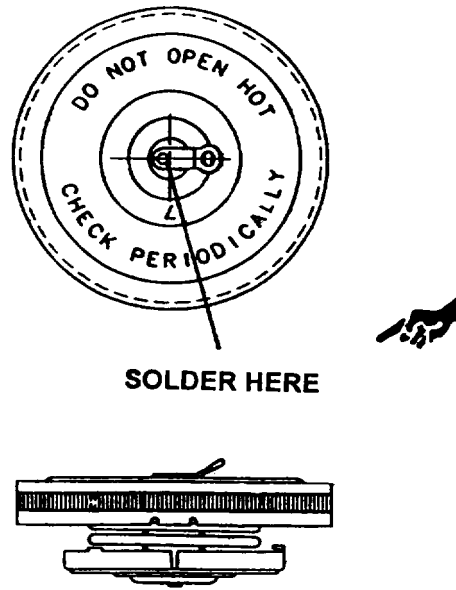
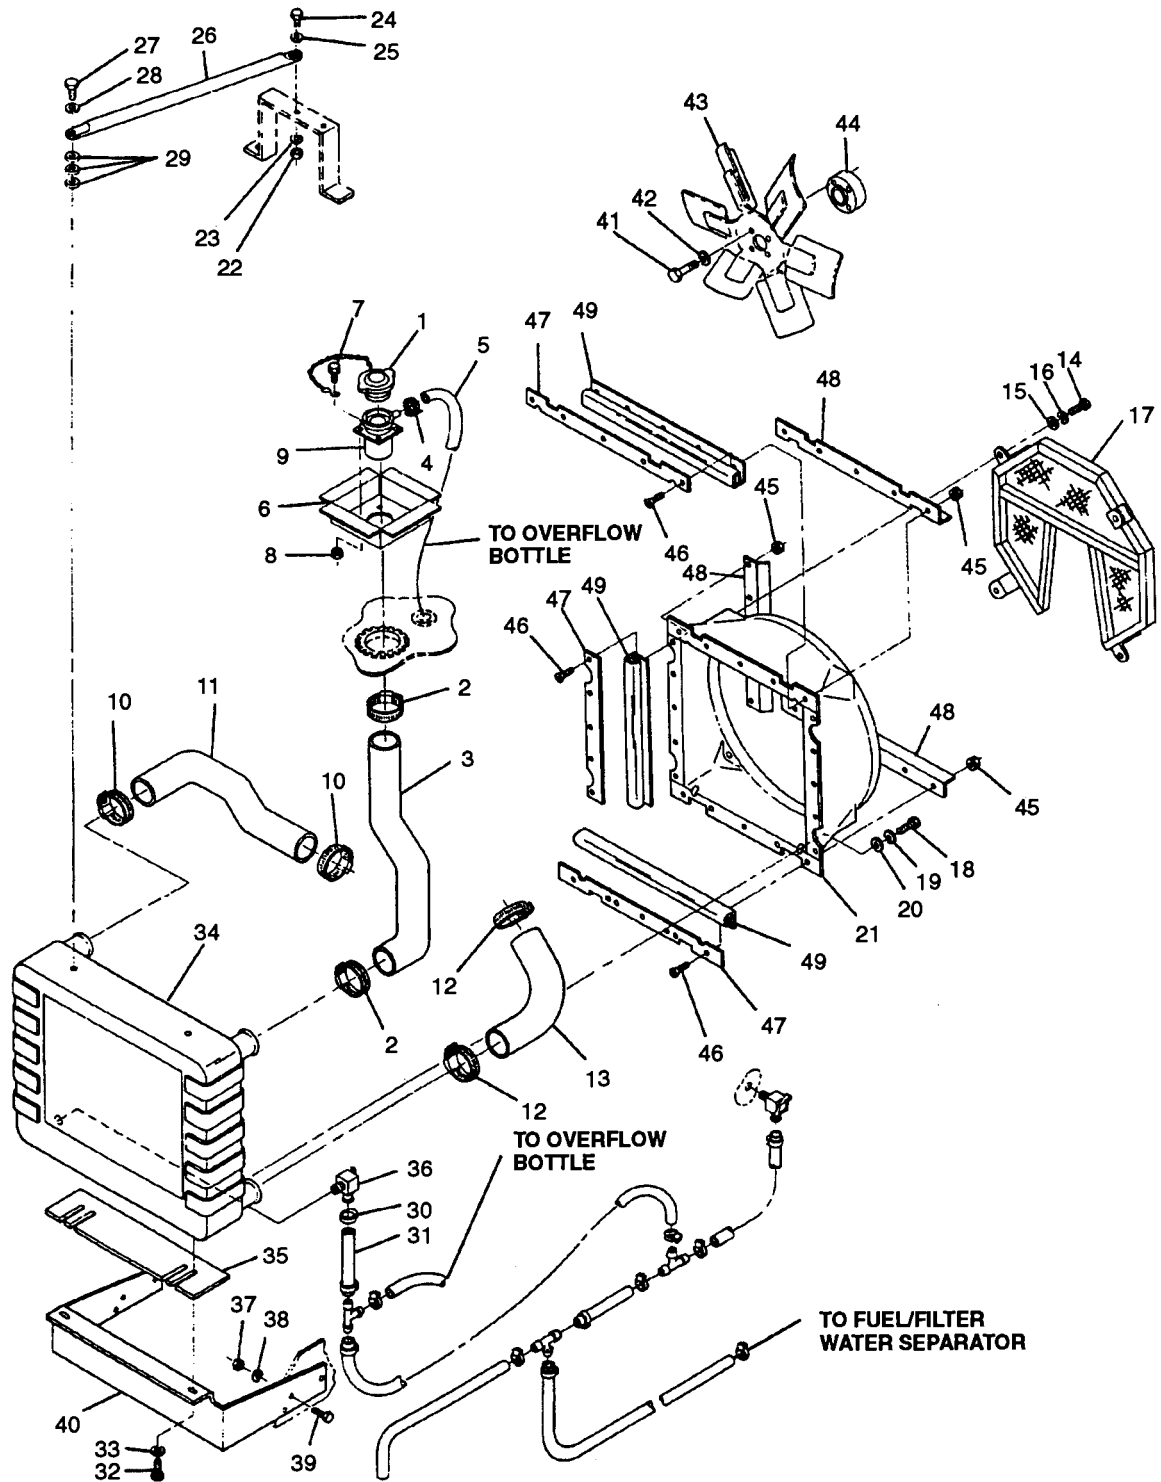

FIGURE 2-22. Radiator Cap
FIGURE 2-23. Coolant System
- b. Slowly remove radiator cap (1, FIGURE 2-23).
- g. Install radiator cap (1) on pressure tester.
- j. Install radiator cap (1).
- d. Slowly remove radiator cap (1, FIGURE 2-23).
- e. Open radiator drain valve (36) and drain coolant/antifreeze into suitable container to a level below radiator filler hose (3) connection at radiator.
- f. Loosen clamps (2). Remove radiator filler hose (3) and clamps (2).
- g. Loosen clamp (4) and disconnect overflow hose (5) from radiator filler neck (9).
- h. Remove radiator fill panel (6) and filler neck (9) from generator set.
- i. Remove bolts (7), nuts (8), cap (1), and radiator filler neck (9) from radiator fill panel (6).
- c. Inspect radiator filler hose (3, FIGURE 2-23) for cracks, holes, and dry rot.
- d. Inspect filler panel (6), filler neck (9), and cap (1) for cracks, excessive corrosion, and other damage.
- a. Install radiator filler neck (9, FIGURE 2-23) and cap (1) on radiator fill panel (6) with bolts (7) and nuts (8).
- b. Position radiator fill panel (6) and filler neck (9) in generator set and attach overflow hose (5) with damp (4).
- c. Install radiator filler hose (3) on filler neck (9) and radiator (34) with clamps (2).
- e. Close radiator drain valve (36) and add coolant /antifreeze to proper level, paragraph 2-1.2.2.
**If replacing radiator cap solder tab to radiator cap as shown in FIGURE 2-22.**
- f. Install radiator cap (1).
- e. Open radiator drain valve (36) and drain coolant/antifreeze into suitable container.
- f. Loosen clamps (10). Remove upper coolant hose (11) and clamps (10).
- c. Inspect upper coolant hose (11, FIGURE 2-23) for cracks, holes, and rotting.
- a. Install upper coolant hose (11, FIGURE 2-23) on thermostat housing opening and radiator (34) with clamps (10).
- b. Close radiator drain valve (36) and add coolant/antifreeze to proper level, paragraph 2-1.2.2.
- c. Install radiator cap (1).
- e. Open radiator drain valve (36) and drain coolant into suitable container.
- f. Loosen clamps (12) and remove lower coolant hose (13).
- c. Inspect lower coolant hose (13, FIGURE 2-23) for cracks, holes, and rotting.
- a. Install lower coolant hose (13, FIGURE 2-23) on radiator outlet opening and water pump opening with clamps (12).
- d. Locate overflow or drain hose to be removed, as shown on FIGURE 2-23 and FIGURE 2-25.
- d. Remove bolts (14, FIGURE 2-23), washers (15), lockwashers (16), and fan guard (17) from shroud (21).
- e. Slowly remove radiator cap (1).